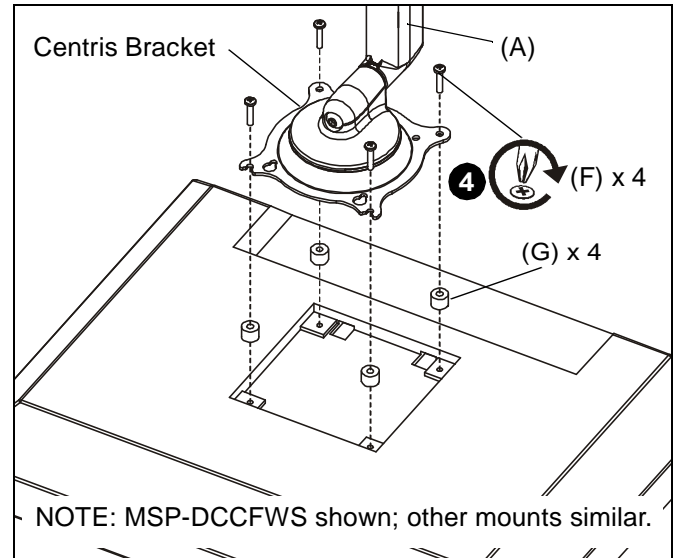

Figure 8
IMPORTANT ! : If your display has a recessed mounting hole cavity, *and* the Centris bracket will not fit into that cavity (See Figure 8), then follow the "ALL MOUNTS REQUIRING SPACERS" procedure.
IMPORTANT ! : If your display has a recessed mounting hole cavity, *and* the Centris bracket will not fit into that cavity (See Figure 8), then follow the “ALL MOUNTS REQUIRING SPACERS” procedure.
IMPORTANT ! : Spacers (G) are used only if your display has a recessed mounting hole cavity, *and* the Centris bracket will not fit into that cavity (See Figure 8).
2. Place four spacers (G) over each of the mount holes on the back of the display. (See Figure 8)
3. Pick up and orient the mount (A) so that the mounting holes in the Centris bracket are aligned with the holes in the spacers (G). (See Figure 8)
4. Using Phillips screwdriver, install four screws (F) through the mounting holes/cutouts in Centris bracket, through the spacers (G), into the display. (See Figure 8) Tighten all four screws (F). Do not over-tighten!